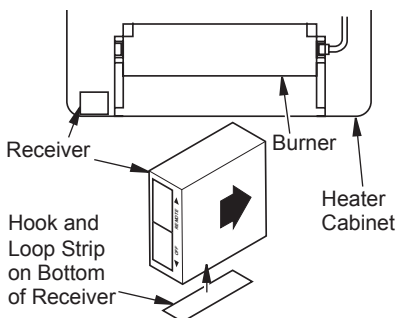

Figure 14 - Installing Remote Receiver
3. Remove adhesive backing on hook and loop strip and attach to receiver in location shown in Figure 14, page 12.
4. Place receiver with hook and loop strip's sticky side down in approximate location on inside of heater shown in Figure 14, page 12.